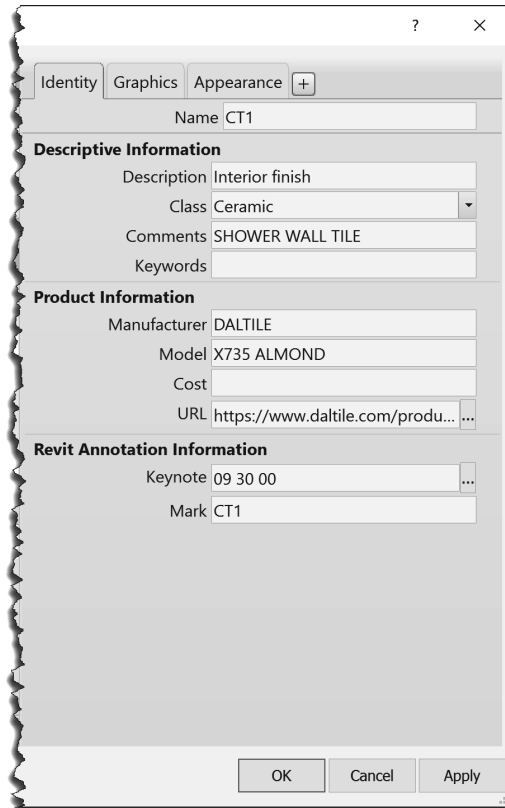

FIGURE 4-4.2 Material Browser; Identity tab
11. Finish entering the information on the *Identity* tab as shown in Figure 4-4.2.
Note that the *Class* being set to *Ceramic* on the *Identity* tab (Figure 4-4.2) only relates to which category the *Material* is listed under in the *Material Browser* and does not directly relate to the actual material assigned on the *Appearance* tab. However, you should make sure they match so there is no contradiction.